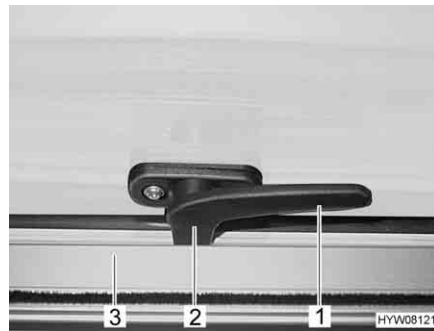

Fig. 105 Catch lever in "closed" position
- Turn the catch lever (Fig. 105,1) a quarter turn towards the centre of the window.
- Turn the catch lever (Fig. 105,1) a quarter turn towards the window frame. The locking catch (Fig. 105,2) is located on the inside of the window catch (Fig. 105,3).